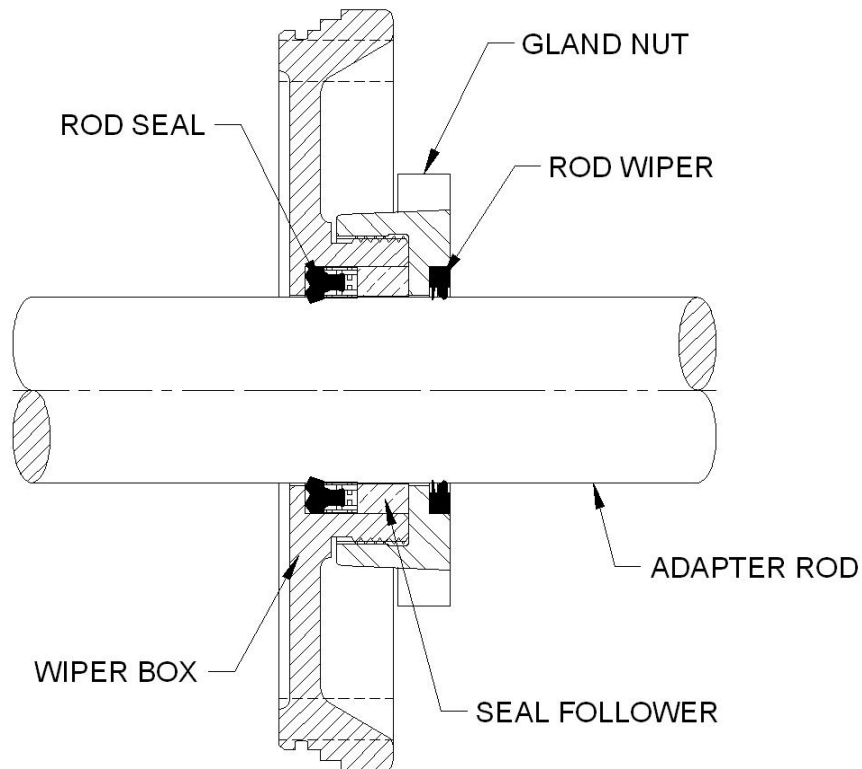

Figure 11
The standard power end wiper box is composed of a special molded seal, a seal follower and a rod wiper (see Figure 11). To replace the assembly follow the instructions below.
3. Lubricate the rod seal and carefully install as shown in Figure 11. Ensure the seal is all the way to the bottom of the box.